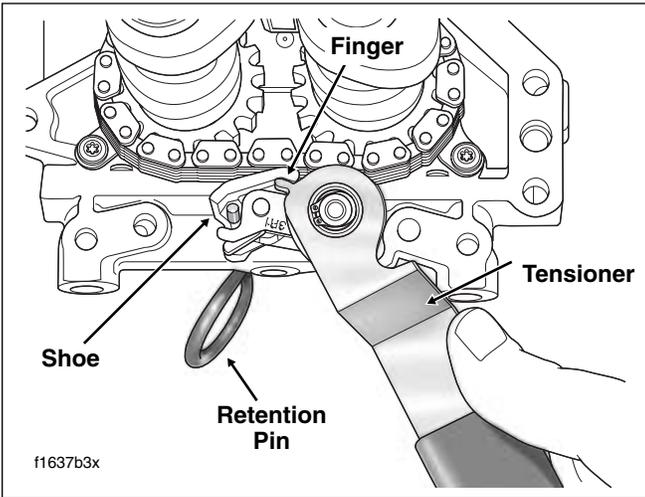

Figure 3-105. Retract Secondary Cam Chain Tensioner
1. Place cup of CAM CHAIN TENSIONER UNLOADER (HD-42313) over spring coil of secondary cam chain tensioner positioning finger on tool between tensioner and shoe. See Figure 3-105. Rotate tool in a counterclockwise direction inserting retention pin through hole in boss on **primary cam chain side** of cam support plate. Pin engages hooks on tensioner to hold it in the retracted position. For best results, place cam support plate in a vise using brass jaw inserts to prevent casting damage.